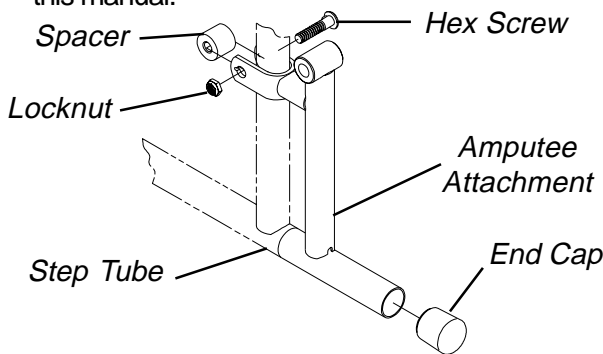

FIGURE 1 - INSTALLING THE AMPUTEE ATTACHMENT
**INSTALLING THE AMPUTEE ATTACHMENT (FIGURE 1)**